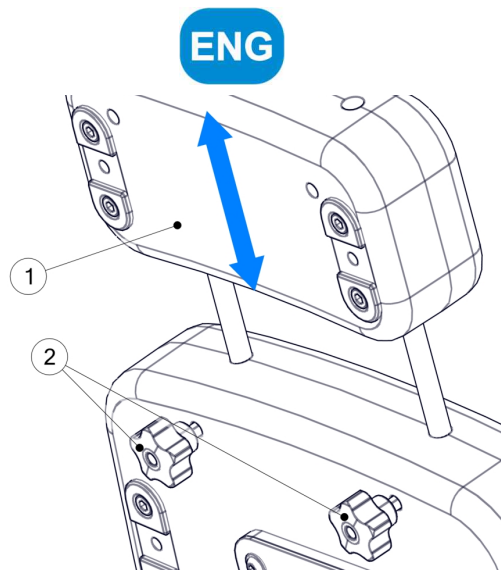

Fig. 5
Main trunk support (Fig. 5) constitutes the basic support of the patient. In order to perfectly adjust the device to the patient's body, it is essential to adjust the location of the extra support, back support and hip support.
The extra support added to the main trunk support (Fig. 5) enables adjusting the length of the head support to the required dimension. In order to regulate the position of the extra support (1), undo the knobs (2) and then set the required height. When the extra support is in a proper position, tighten the knobs (2) in order to block the possibility of any movement of the extra support.